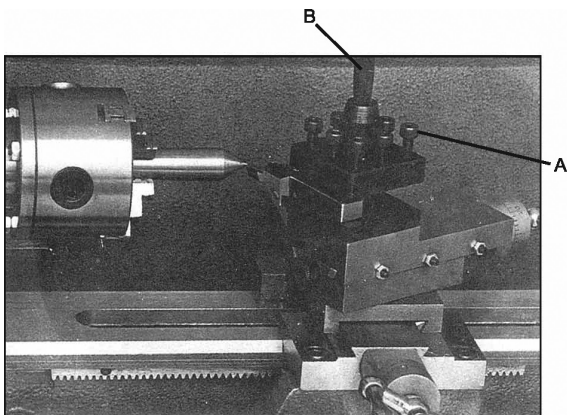

Fig. 11
Loosen the lever shown in (B) of figure 11, the adjust the tool post position. Once the adjustment is made, re-tighten the lever. To replace the work cutter, loosen the screws (A) with the hex key wrench provided.